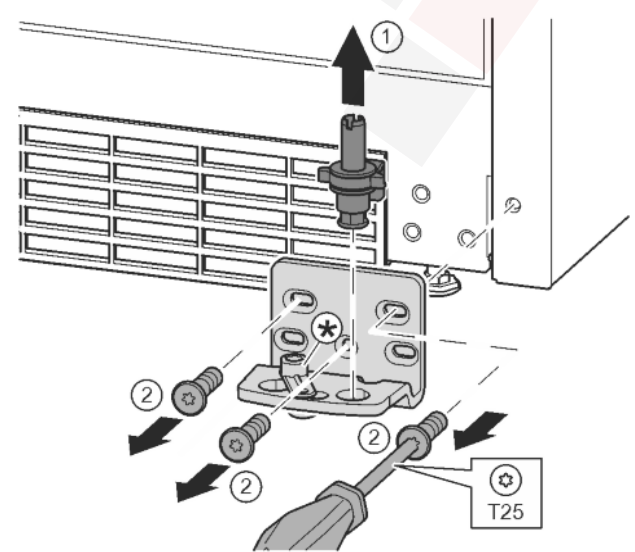

Fig. 10
- Lift the bearing pin completely upward and remove. Fig. 10 (1)
- Undo the screws with a T25 screwdriver and remove the bearing bracket Fig. 10 (2)